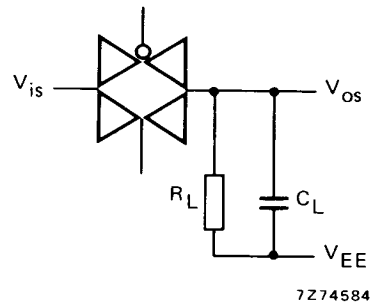

Fig. 9.
- $R_L = 10\text{ k}\Omega$; $C_L = 15\text{ pF}$; channel ON; $V_{is} = \frac{1}{2} V_{DD(p-p)}$ (sine-wave, symmetrical about $\frac{1}{2} V_{DD}$); $f_{is} = 1\text{ kHz}$; see Fig. 9.
$20 \log \frac{V_{os}}{V_{is}} = -50\text{ dB}$; see Fig. 9.
$20 \log \frac{V_{os}}{V_{is}} = -3\text{ dB}$; see Fig. 9.